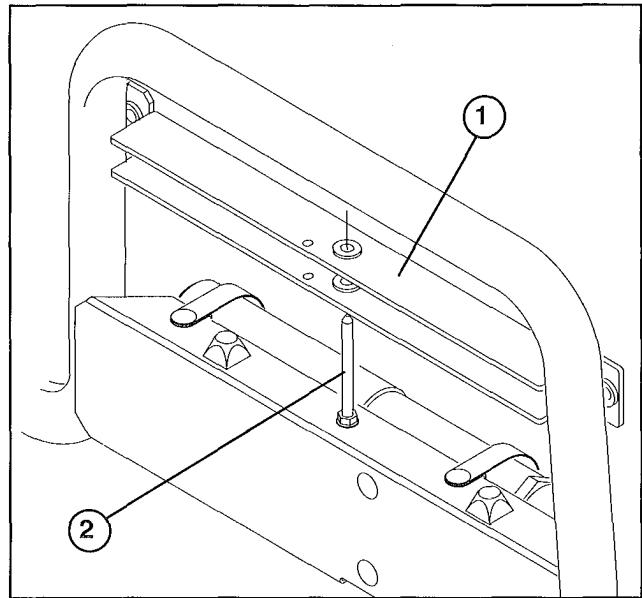

Figure 33
USING BED SAFETY SUPPORT (Fig. 33 & 34)
2. Remove bed support from storage stud on top of back rest support channel on Workman (Fig. 33).